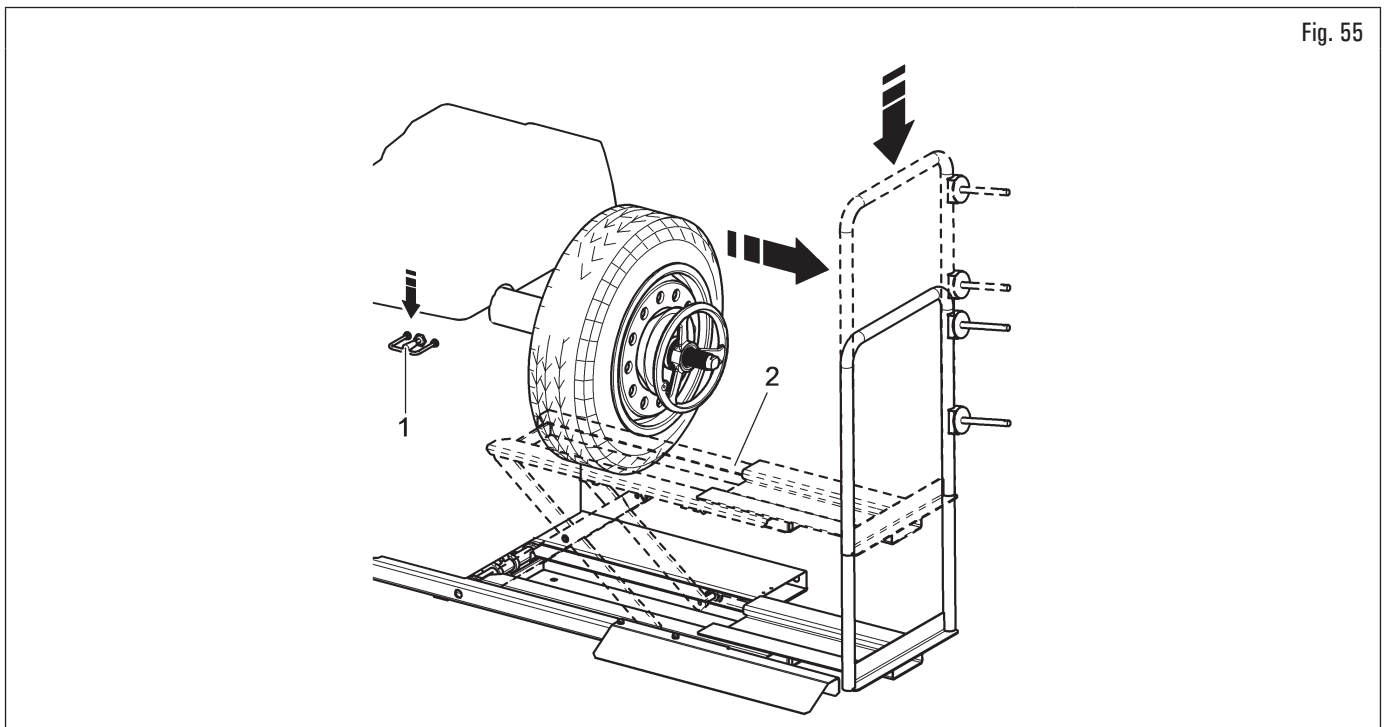

Fig. 55
6. lower the lifting device control (Fig. 55 ref. 1) and then lower the footboard (Fig. 55 ref. 2).